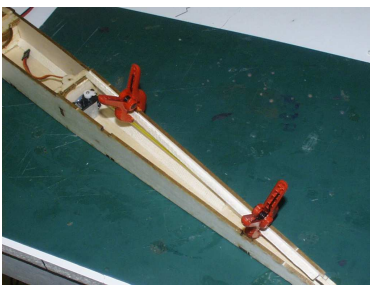

Figure 4.12: Applying tristock to top-rear
- Install triangular stock to the top side of the fuselage. (Figures 4.12 and 4.13)